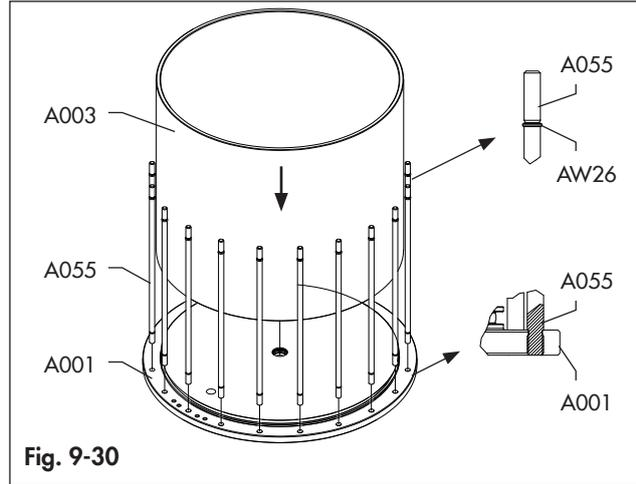

Fig. 9-30
- Place and screw completely the tie rods into the flange A001). (Fig. 9-30)